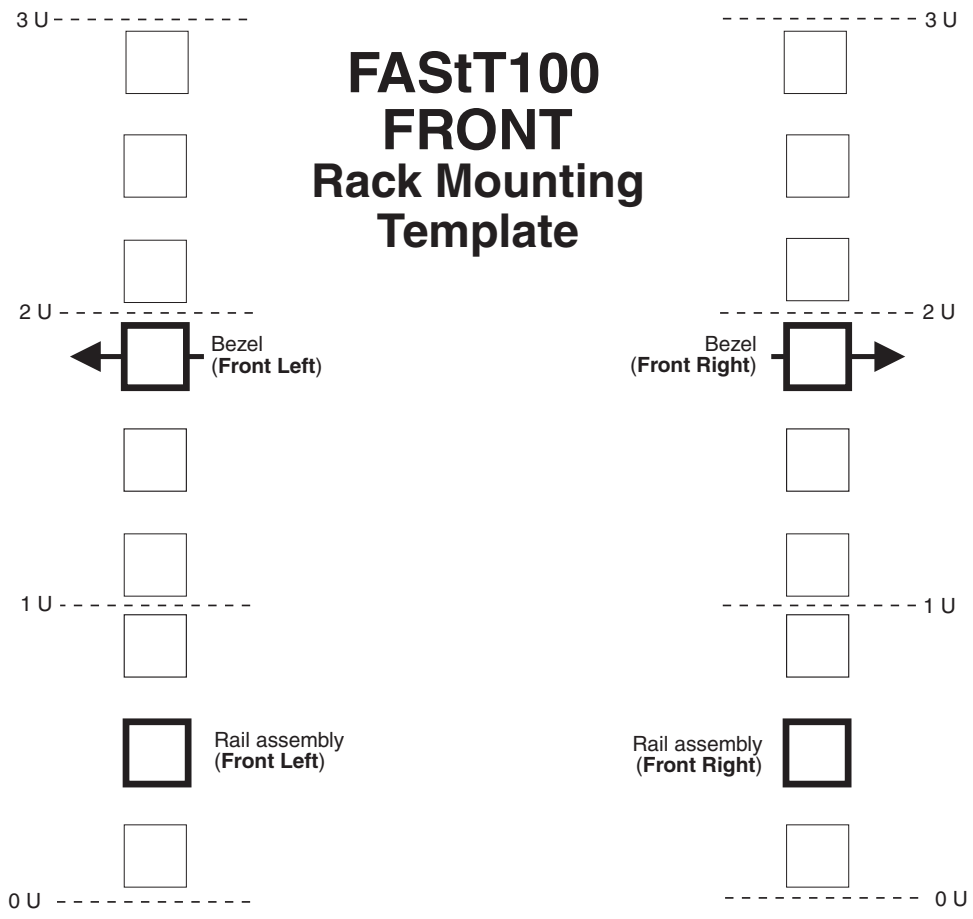
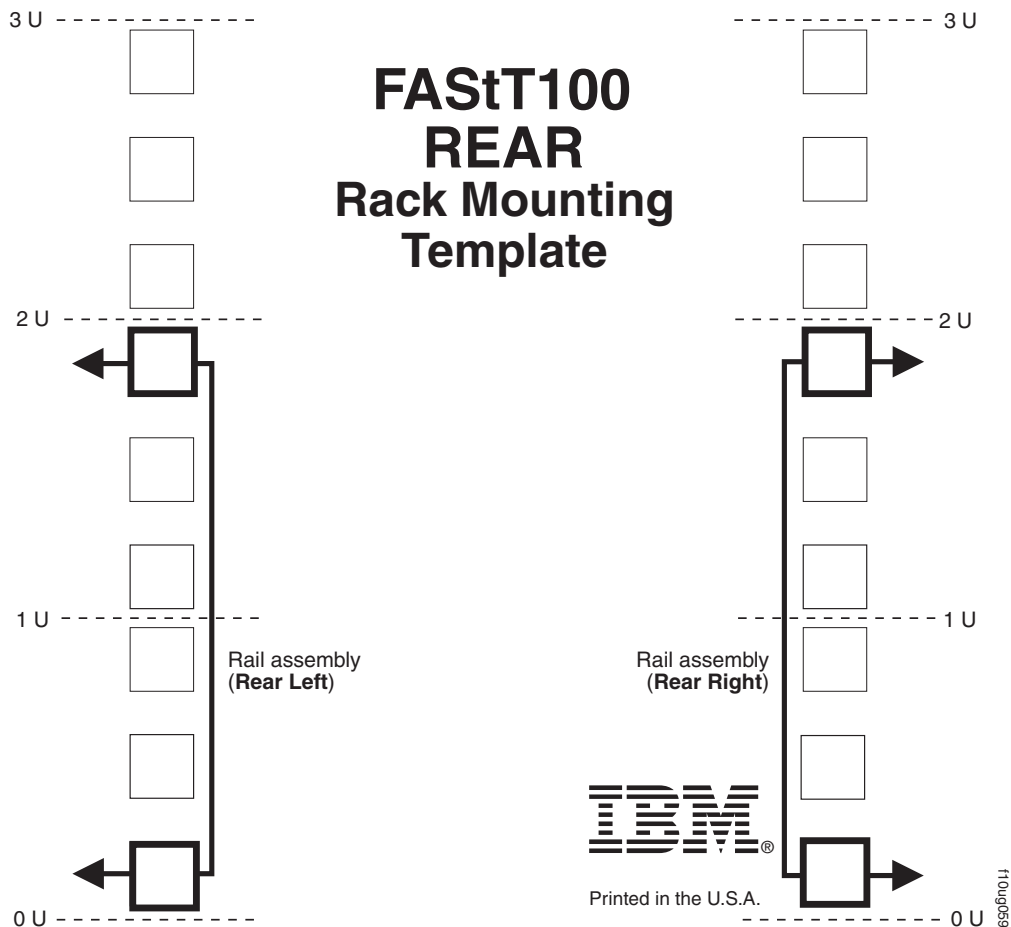

Figure 7. Front rack mounting template
Figure 8. Rear rack mounting template
Use the following templates (Figure 7 on page 17 and Figure 8 on page 18) to identify the proper locations for inserting M6 screws when mounting the support rails and FAStT100 to a rack. The locations for the M6 screws are highlighted in the templates.
Attention: Use the rack mounting template provided in Figure 7 on page 17 and Figure 8 on page 18 to locate the proper rack mounting holes for installing the support rails into the rack.
- Hold the front of the rail against the inside of the right rack-mounting flange and loosely tighten the lower M6 screw (**4**). See Figure 7 on page 17 for the location for this screw.
- From the rear of the rack, thread and tighten two M6 screws (**1**) (see Figure 8 on page 18 for the location for these screws). From the front of the rack, finish tightening the front M6 screw (**4**).